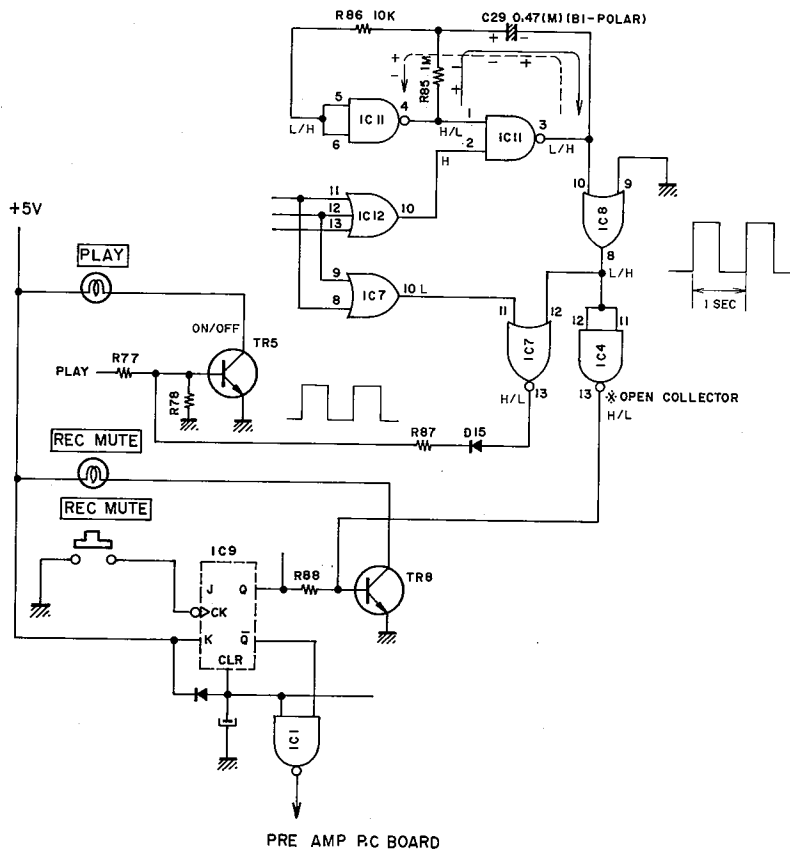

Fig. 8 Oscillation
3) If in the above modes, to one of IC12-⑪, ⑫, ⑬ is input the High Level so IC11-② becomes High Level. Then as IC11-③ changes to Low Level, charging current flows through R85 to C29 as shown by the solid line in Fig. 8. During the charging period, (C29 and R85's fixed time constants) IC11-⑤ and ⑥ are kept at High Level but once charging has finished the voltage drop becomes 0 and IC11-⑤, ⑥ changed to High Level. When IC11-⑤, ⑥ change to High Level, IC11-④ changes to Low Level, and IC11-③ changes to High Level and now the charging current flows to C29 as shown by the dotted line. During the charging period, IC11-⑤, ⑥ are kept at high Level due to the R85's voltage drop, but when the voltage drop becomes 0, IC11-⑤, ⑥ change to Low Level and IC11-④ to High Level and IC11-③ to Low Level and again the charging current flows as shown by the solid line. As this operation is repeated, square waves of approximately 1 Hz are input into IC8-⑩ and the same kind of wave form appears in IC8-⑧.
4) When the PLAY indicator lamp flashes on and off IC7-⑪ is fixed at Low Level so as the square waves of 1 Hz input into IC7-⑫, they are reversed and appear in IC7-⑬. This output, passing through D15 and R87 is added as bias of TR5 and the PLAY indicator lamp flashes. REC MUTE will be explained in 1-8.